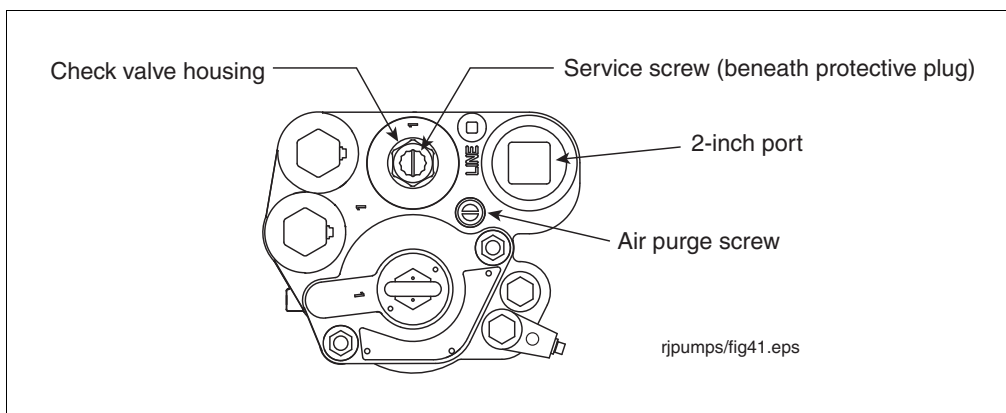

Figure 42. Locating Air Purge Screw
25. Turn the air purge screw 2 - 3 turns counterclockwise (see Figure 42).
2. Remove and save the protective plug in the top of the check valve housing and turn the service screw clockwise (see Figure 42). As the screw approaches its bottom position, you will hear the system depressurizing. Continue turning the screw until it can go no further. When the screw is all the way down, backoff the screw 4 turns to lift the check valve and let the fuel drain out of the manifold's hydraulic cavities.
5. Locate the air purge screw on the top of the manifold (Figure 42).